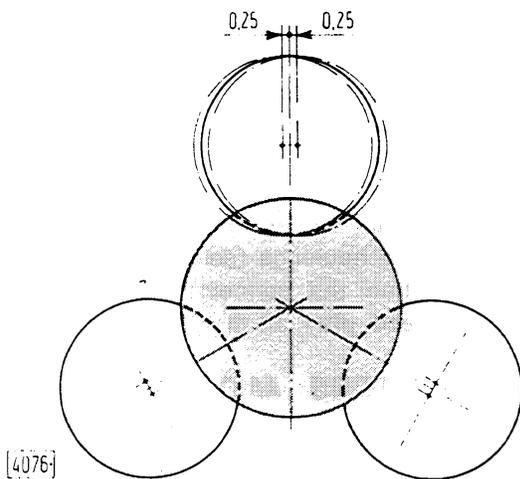

Fig. 38 - Checking Crankpin Axis Alignment
- Maximum misalignment of each pair of crankpins with respect to main journals should not exceed $\pm .25$ mm. ($\pm .010$ in.) when measured as shown in Fig. 38.